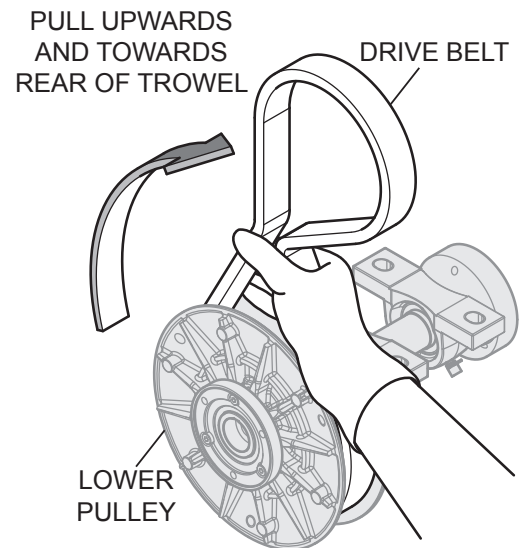

Figure 21. Spare Drive Belt Placement (Lower Pulley)
5. Squeeze the drive belt (Figure 21) and pull upwards and towards the rear of the trowel. This will spread open the faces of the lower drive pulley.